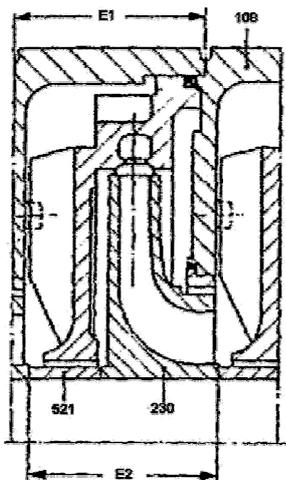

Figure 34 – Measuring stages
Prior to assembly, measure the axial length “E” of the stage casing (108) and the appertaining impeller (230) with stage sleeve (521). Any differences in length must be compensated for solely by machining the stage sleeve (521) so that E1 = E2 (Fig. 34).
Consult item 9.4.1.1. “General” and Fig. 34.